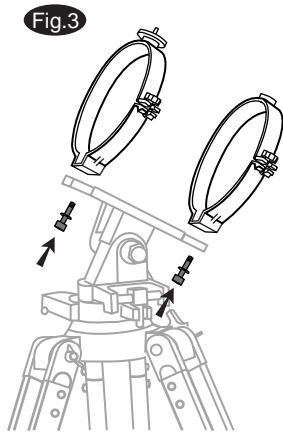

Fig.3
**ATTACHING THE TUBE RINGS TO MOUNT(Fig.3)**